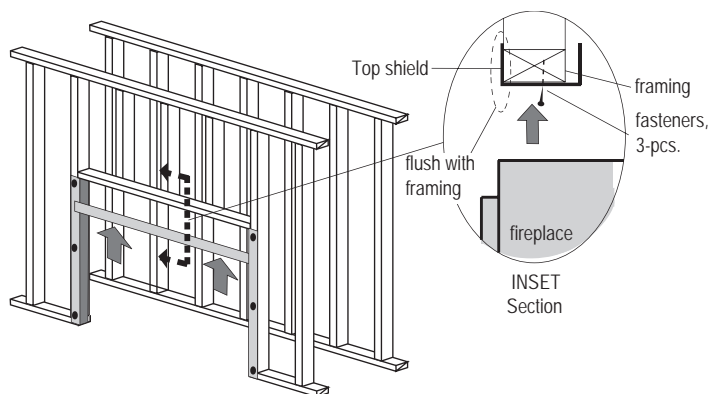

Figure 9a. Combustible Framing Top Heat Shield L42FS02x1, (one 1-pc).
Step 2. Next, fasten the Top shield (L42FS02x1), with the Wide flange face up, and the shallow flange toward inside of room, Figure 9a.